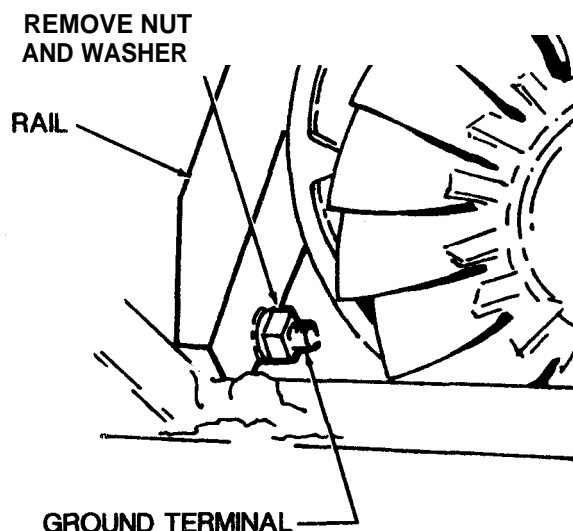

Figure 4-9. Ground terminal, removal and installation.
a. Removal. Refer to figure 4-9 and remove the ground terminal.
(1) Clean and dry the ground terminal thoroughly
(2) Inspect the ground terminal for evidence of burning and for cracks, damaged threads, and other damage.
(3) Replace a defective ground terminal.
(4) Replace lost or broken terminal clip (retainer, safety clip). For fabrication procedures, see Chapter
(3) Replace defective ground terminal.
(4) Replace lost or broken terminal clip(retainer, safety clip). For fabrication procedures, see Chapter 4, Section X Maintenance of the Control Box Assembly, paragraph 4-27.
c. *Installation.* Refer to figure 4-9 and install the ground terminal.